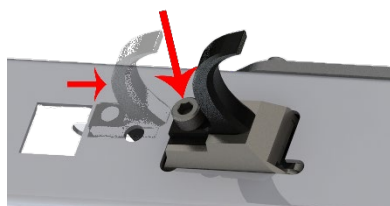

fig. 15
- j) Slide the Trigger Blade (O) back onto the Echo Assembly (A) from the rear. (See fig. 15)
- k) With the 7/64 Allen Wrench (N), use the Trigger Blade Screw (P) to attach the Trigger Blade (O) and tighten. (See fig. 15)